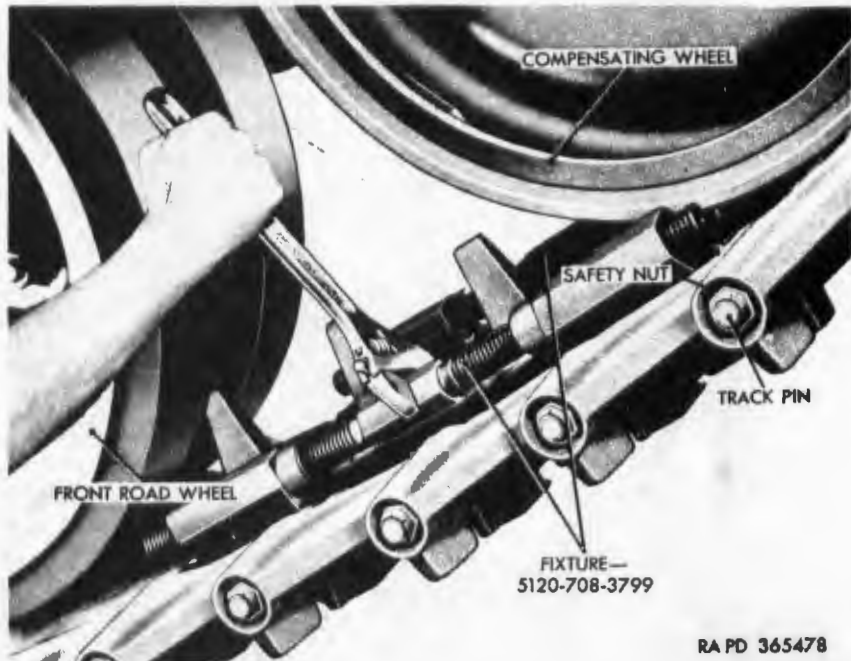

Figure 202. Track shoe assembly—exploded view.
a. *Description.* Each track assembly is composed of 75 track shoe assemblies (fig. 202) connected by track pins carried in rubber-mounted track shoe link bushings. An integral center guide serves to keep the track assembly on the vehicle. Space is provided between the road wheels, track support roller assemblies, and compensating wheels to accommodate the center guide as the track assembly moves over them. Track shoe assemblies are interchangeable for either the right or left track assembly.
- (1) *Disconnecting track assembly.* Install two track connecting fixtures 5120-708-3799 (fig. 203), one on each side of the track assembly between the compensating wheel and the front road wheel and tighten sufficiently to take track tension off track pin. Remove the self-locking hex-nut and washer (fig. 202) from one end of track pin. Using
c. Disassembly. With track assembly flat on the ground, remove self-locking hex nut and washer from each end of track pin (fig. 202). Use drift pin 5120-708-3639 (fig. 204) to drive track pins from track shoe assemblies, taking extreme care not to damage threads on pin. After track shoe assemblies have been separated, remove self-locking hex nut (fig. 202) securing track shoe road pad to track shoe link and, using a soft hammer, tap road pad free from link.
d. Assembly. Install track shoe road pad (fig. 202) in recess provided in each track shoe link and secure with $\frac{3}{4}$ -inch self-locking hex nut. Position track shoe links on the ground, center guide upward, so that track shoe link bushings of shoe assemblies are in alignment. Using a soft hammer, drive $\frac{3}{4} \times 21\frac{5}{16}$ track pin (fig. 202) through track shoe link bushings to connect track shoe links. Install a $4\frac{9}{16}$ -inch ID, $1\frac{1}{4}$ -inch OD washer and $\frac{3}{4}$ -inch self-locking hex nut on each end of track pin. Be sure that small shoulder of washer is facing inward. Tighten self-locking hex nuts to 160 to 200 pound-feet torque.
Install a $\frac{49}{64}$ -inch ID, $1\frac{1}{4}$ -inch OD washer (fig. 202) so that small shoulder of washer is facing inward, and a $\frac{3}{4}$ -inch self-locking hex nut on one end of $\frac{3}{4}$ x $21\frac{5}{16}$